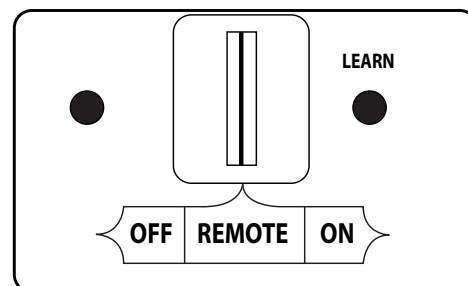

Fig. 19-2 Remote receiver detail (REMOTE)
1. Ensure the pilot is burning. Then locate the 3-position switch on the remote receiver (see Fig. 19-2), and slide the switch to the **REMOTE** position.